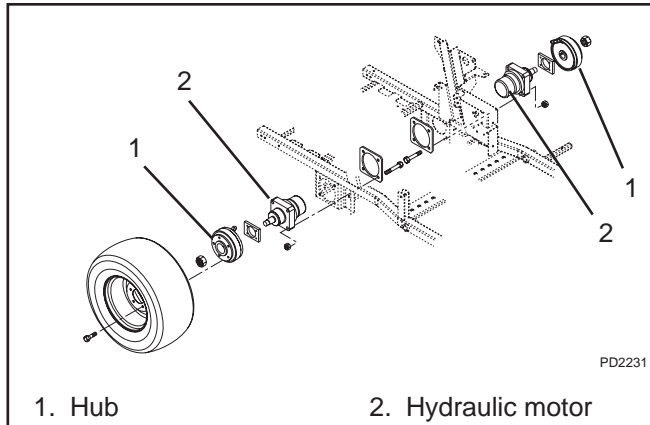

Figure 27
1. Loosen the wheel lugs 1/4 turn.(Figure 27)